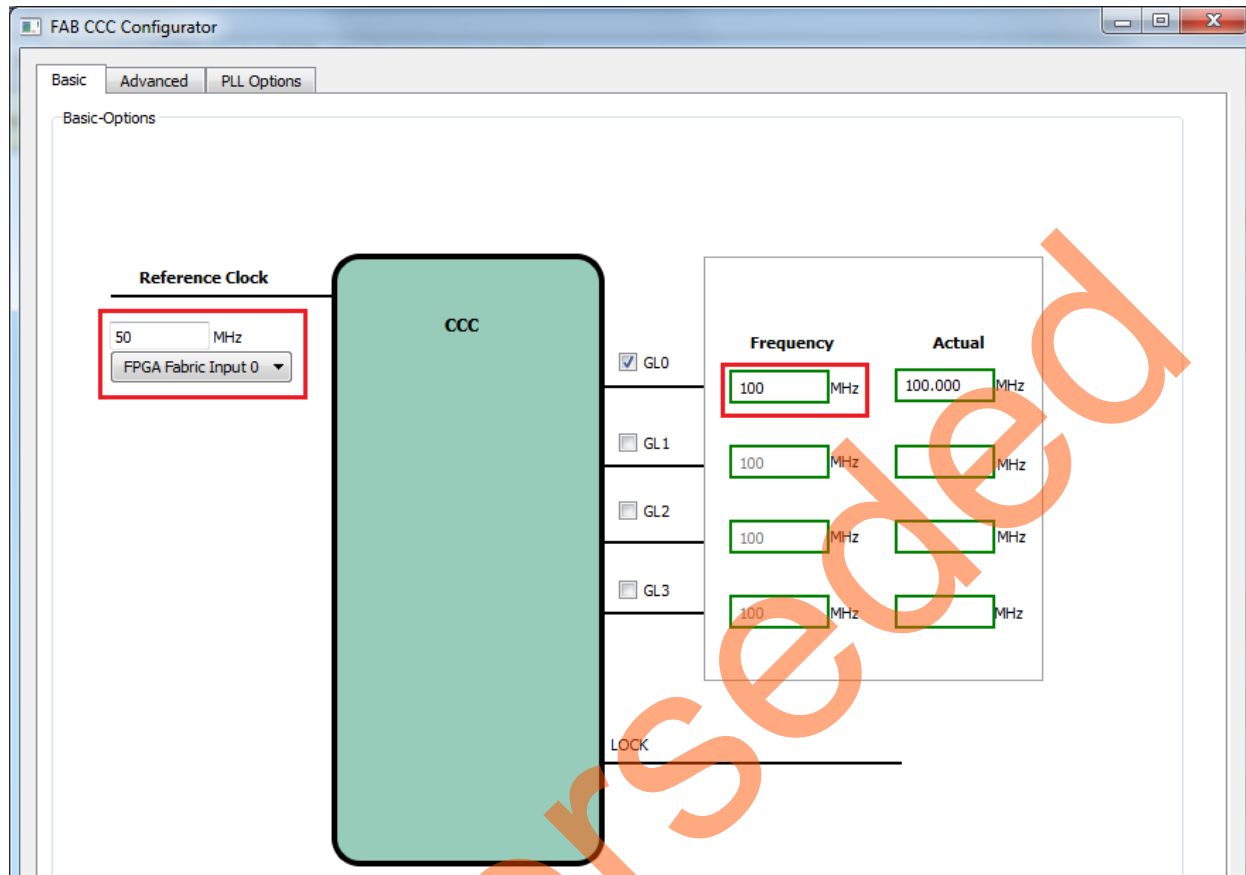

Figure 25 • Configure CCC
2. Double-click **CCC** to configure it. Figure 25 shows the **FAB CCC Configurator** window.